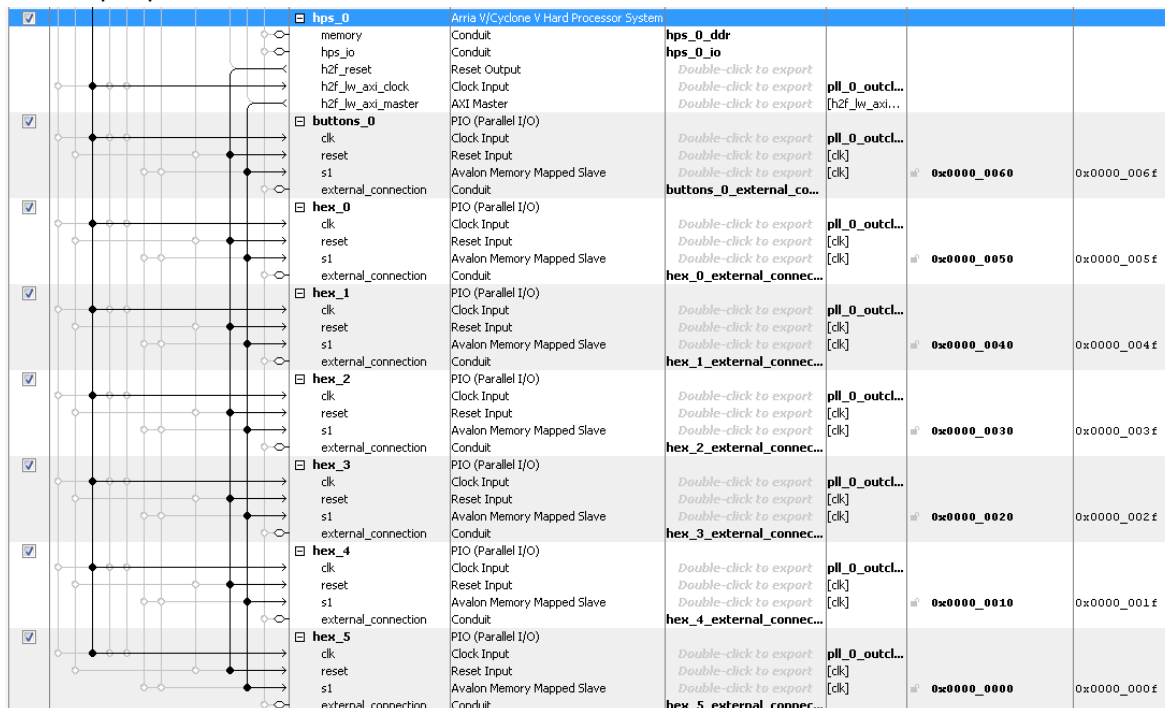

Figure 8-10. Adding Buttons and 7-segment Displays to the Lightweight HPS-to-FPGA Bridge
25. Connect the system as shown in Figure 8-10 below (we don't show the full system to make figures hold on one page). Notice that we use “hps_0.h2f_reset” as the reset signal for the components